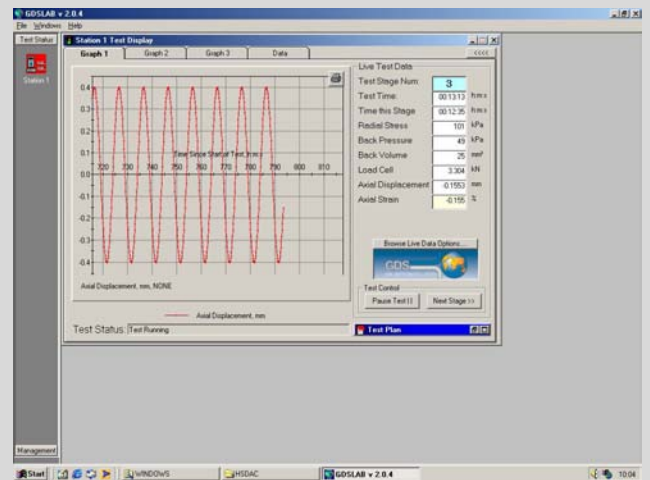

Fig.3 Test display showing a dynamic test in progress
- Controlled data displayed in real-time, as in Fig. 3.